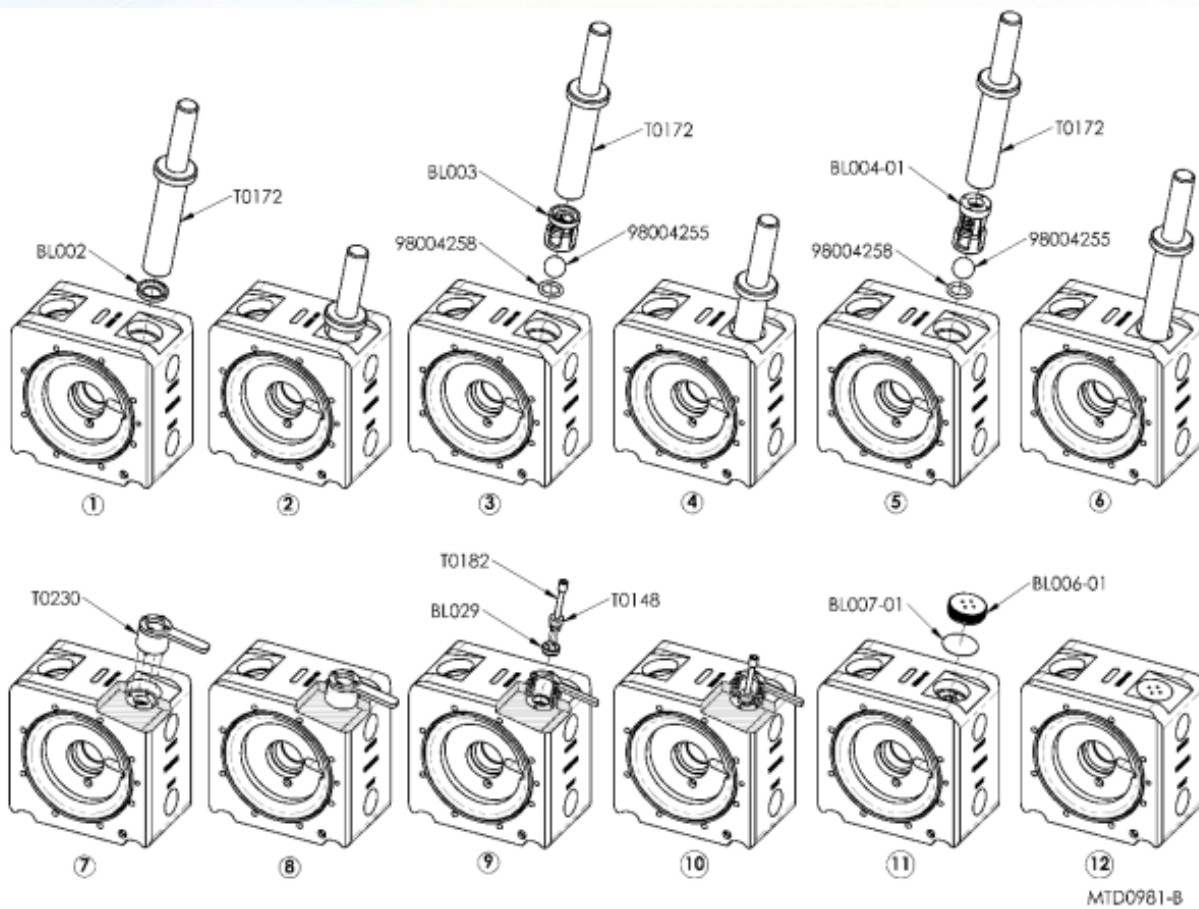

Figure 4-4
- Press suction sleeve (BL003) into check bore of pump body using sleeve insertion tool (T0172) as shown in Figure 4-4.